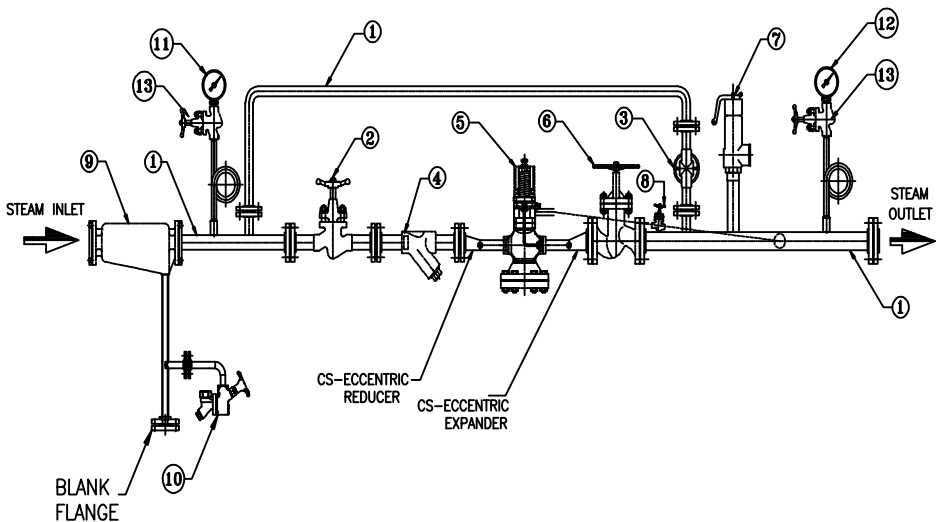

Figure 1 : Forbes Marshall Pressure Reducing Station (Pilot Operated)
5. Installation Guidelines : (Refer to Figure 1)
3. Before installing upstream and downstream pressure gauges(11, 12), pour the water in SYPHON & Install DN15 Piston valve(8) on it.
6. Startup and Commissioning: (Refer to Figures 1)
6.2 Steam Line Flushing Procedure : (Refer to Figure 1)
6.3 FMPRS-PO setting Procedure : (Refer to Figure 1)